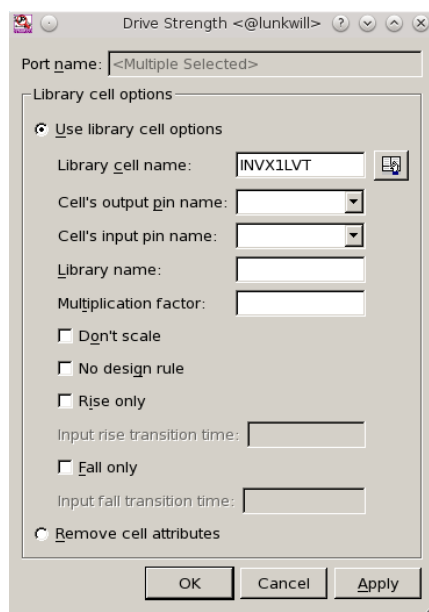

Figure 2.5: Drive Strength window.
- > **Drive Strength**. Select “Use library cell options” and type INVX1LVT in the Library cell name field, as shown in Figure 2.5. This way, you are specifying that your input ports will be driven by the smallest inverter provided by the process vendor. Click OK.